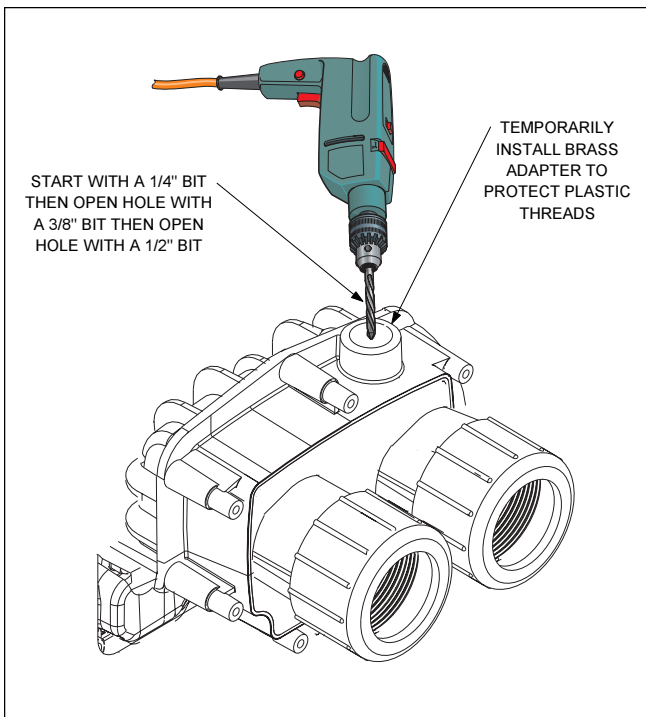

Figure 15. Drill Hole for Pressure Relief Valve
2. Using the countersink in the center of the blind hole as a guide, drill a 1/4 inch hole through the plastic (see Figure 15).